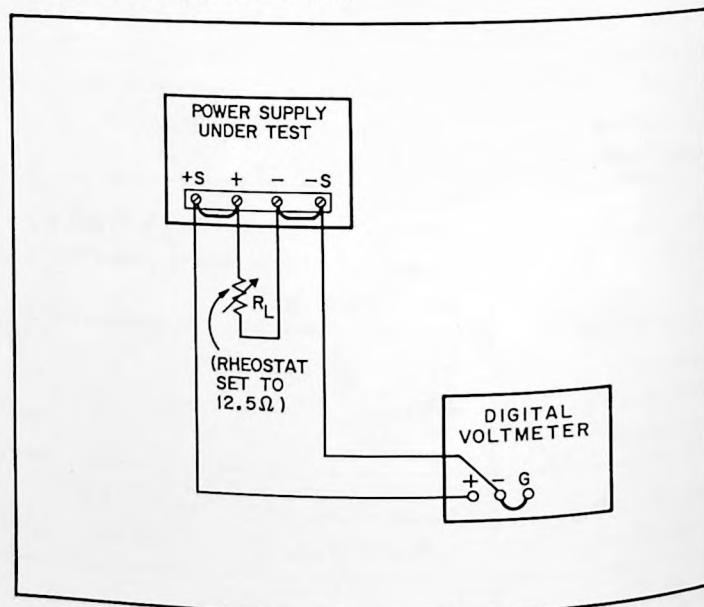

Figure 5-1. Constant-Voltage Test Setup
- Connect load resistance and digital voltmeter across rear terminals as shown in Figure 5-1. Set R_L to maximum resistance, initially.
- Connect test setup shown in Figure 5-1.
- Connect load resistance and digital voltmeter as illustrated in Figure 5-1.
- Check load resistance and digital voltmeter as illustrated in Figure 5-1.